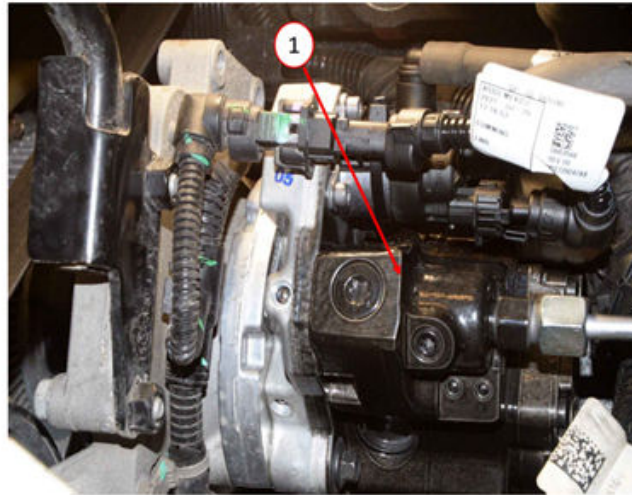

Fig. 1
NOTE: The only calibration available will be for the updated CP3.3 design high-pressure fuel injection pump **Fig. 1**. Please ensure that recall Y78 has been completed first before proceeding with this update.
1. Inspect the high-pressure fuel injection pump **Fig. 1** to verify which pump is currently installed on the vehicle. **Also review the vehicle VIP report to see if campaign Y78 has been performed.**